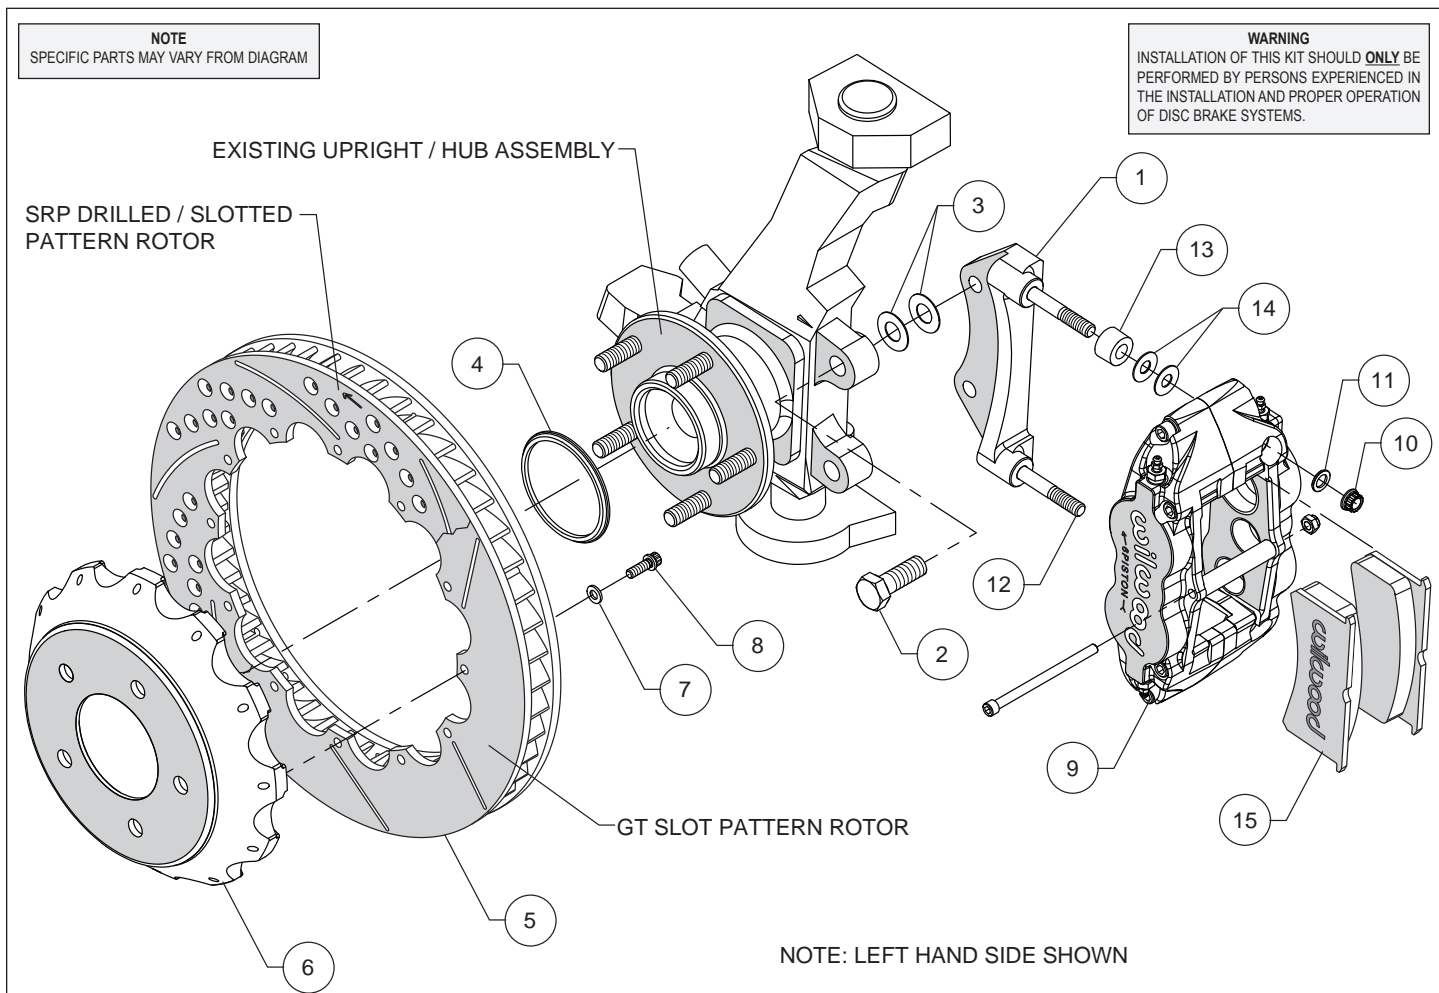
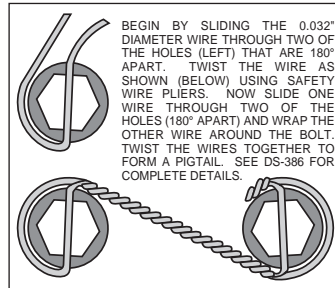

Figure 1. Typical Installation Configuration
Figure 3. Safety Wire Diagram
**Assembly Instructions** (numbers in parenthesis refer to the parts list and Figure 1 on the preceding pages):
- The caliper mount bracket (1) should initially be installed with clean, dry threads on the mounting bolts. Orient the bracket as shown in Figure 1 and Photo 1, and install using shim washers (3) and bolts (2). Initially place two shims (3) on each bolt between the bracket and upright, Figure 1. Temporarily tighten the mounting bolts. **NOTE: The bracket must fit squarely against the mount bosses on the upright.** Inspect for interference from casting irregularities, machining ridges, burrs, etc. Later, after the caliper alignment has been checked, the mount bolts will be secured using red *Loctite*® 271.
- Orient the rotor (5) and the hat (6) as shown in Figure 1 and Photo 2. Attach rotor to hat using bolts (8) and washers (7). Using an alternating sequence, apply red *Loctite*® 271 to the threads, and torque to 155 in-lbs. Safety wire bolts using standard 0.032 inch diameter stainless steel safety wire as shown in Figure 3. Please refer to Wilwood's data sheet DS-386 (available at [www.wilwood.com/Pdf/DataSheets/ds386.pdf](http://www.wilwood.com/Pdf/DataSheets/ds386.pdf)) for complete safety wire installation instructions.
- Slide the rotor registration adapter (4) onto the axle register on the axle hub with the smaller O.D. facing outward, Photo 3. Slide the hat/rotor assembly onto the axle hub. **NOTE: The hat must fit flush against the axle hub flange or excessive rotor run out may result.** Install three lug nuts (finger tight) to keep the hat/rotor assembly in place while continuing with the installation.
- **NOTE: This kit contains distinct right and left hand calipers that must be mounted in a specific direction, as described below.** Lubricate the caliper mounting studs (12) with lightweight oil. Initially place two .035" thick shims (14) and spacer (13) on each stud as shown in Figure 1 and Photo 4. Mount the caliper (9) onto the bracket (1) using lock nuts (10) and washers (11), Figure 1. Ensure that the caliper is mounted so that the largest pistons are at the rotor exit end of the caliper, in relation to the direction of rotor rotation. Temporarily tighten the lock nuts and view the rotor through the top opening of the caliper. The rotor should be centered in the caliper, Photo 5. If not, adjust by adding or subtracting shims (3) between the bracket and the upright. Always use the same amount of shims on each of the two mounting bolts. Once the caliper alignment is correct, remove the bracket mounting bolts one at a time, apply red *Loctite*® 271 to the threads, and torque to 75 ft-lb.